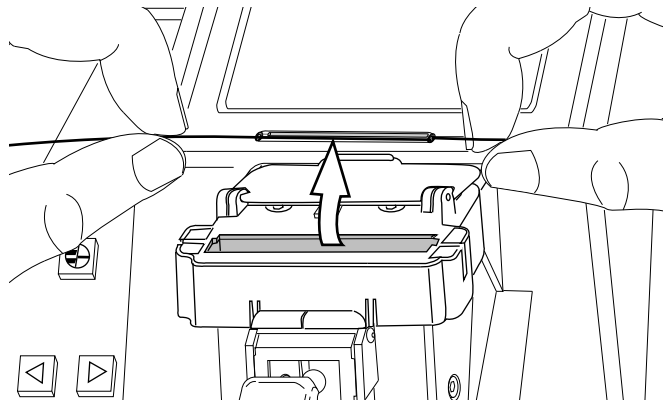

Figure 26
- e) After the heat cycle is completed, open the heater cover and remove the completed splice (Figure 26).